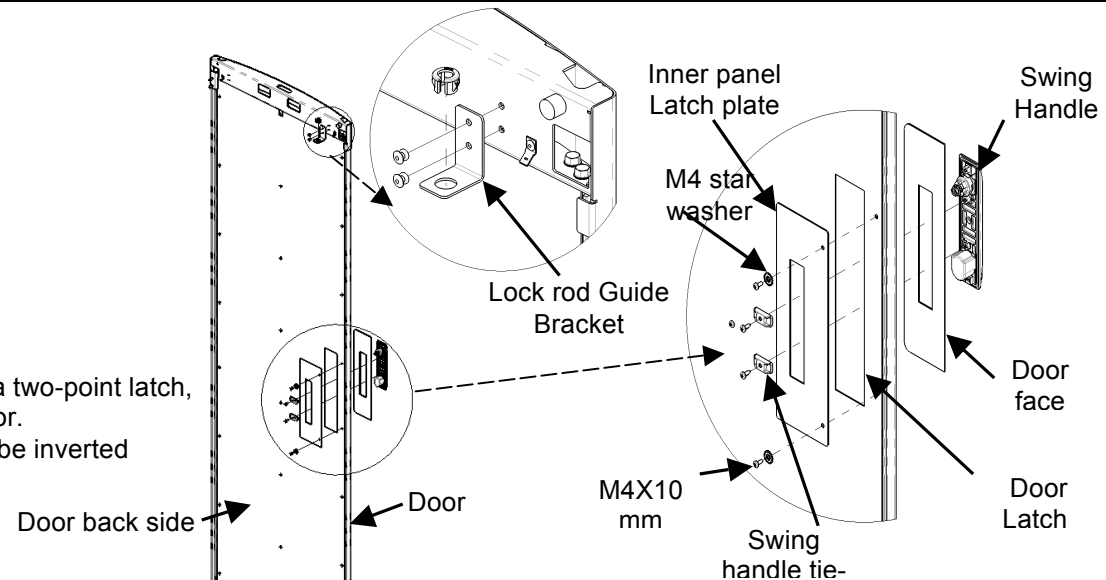

Fig. 1
1. Install lock rod guides in the top and bottom door brackets. do not insert the lock rods yet (Fig. 1).
2. Position the inner panel latch plate inside the door over the latch cut-out and fasten with two M4X10mm screws with a M4 star washer under each screw head. The star washer provides an electrical bonding point (Fig. 1).
3. Place the swing handle into the door face latch plate with the key hole down (Fig. 1)
5. Secure the swing handle to the inner panel latch plate with the swing handle tie-down bracket and 2 screws in the top and bottom holes.(Fig. 1).